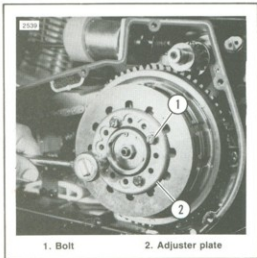

Figure 6-35. Adjuster Plate Removal
2. See Figure 6-35. If an adjustment is required, remove bolts (1) by backing out each, alternately, 1/2 to 1 turn at a time until spring pressure is relieved. Position adjuster plate (2) at the mounting holes which will give the correct adjustment.
1. See Figure 6-35. Remove adjuster plate retaining bolts (1) with washers and lockwashers.